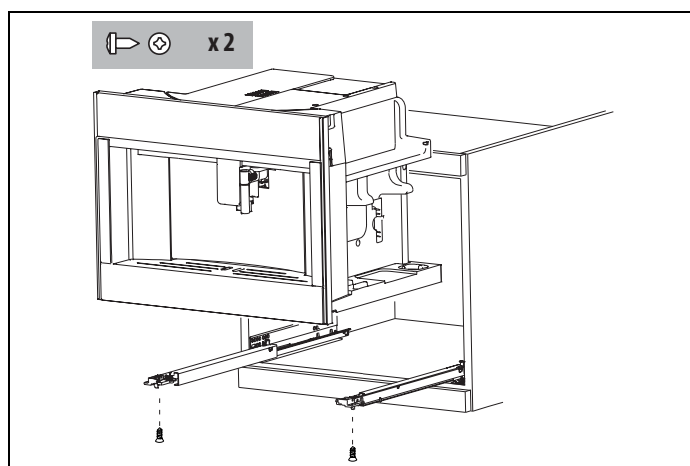

Fig. 7
- Position the appliance on the rails, (only after these have been assembled on the cabinet. This is to avoid placing the machine on a surface not suited to such use) making sure the pins are correctly inserted in the housings, then fix it with the screws supplied (Fig. 7). If the height of the appliance requires adjusting, use the spacer disks provided.